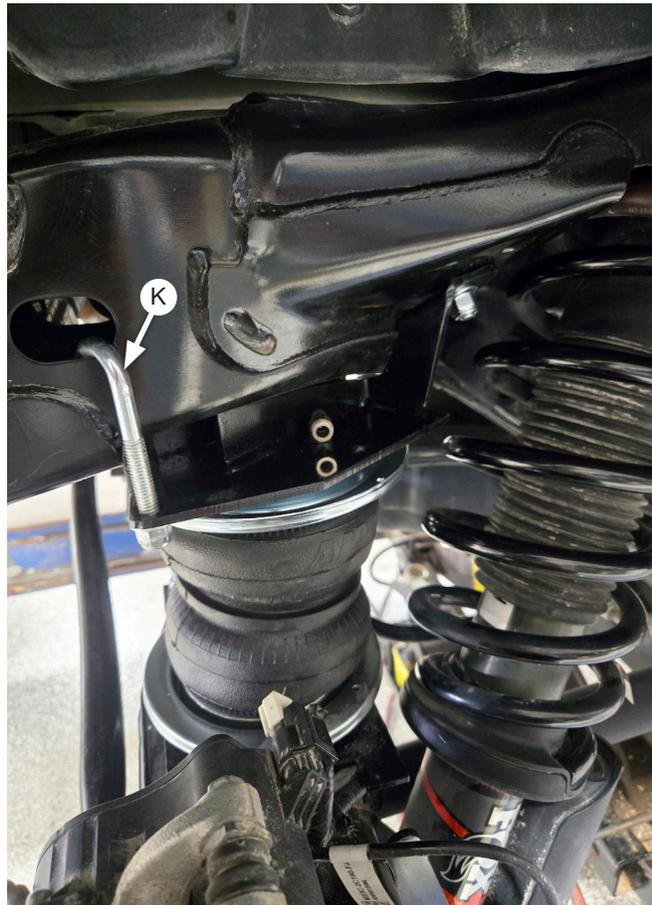

Fig. 18
2. Insert J-Bolt (K) into the oval frame hole above the outer rear bolt hole in the upper bracket. It will be necessary to insert the hook portion first and then guide the threaded end through the bracket hole (Fig. 18).